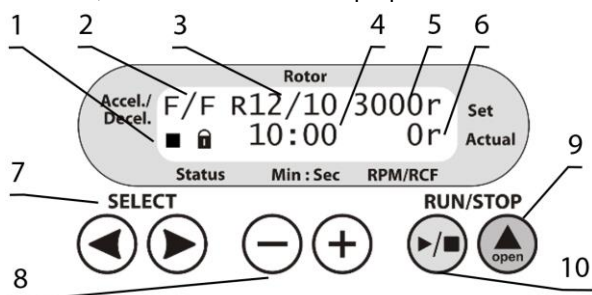

Figure 3. LMC-56 control panel.
- Check the power cable for any signs of damage. Connect the power cable to a properly grounded mains socket. Set the power switch on the unit to position **I** (on). Press the **▲ Open** key (fig. 3/9) and lift the lid by hand.
- Acceleration and deceleration modes (fig. 3/2);
- Set rotor speed in RPM or RCF¹ (fig. 3/6);
- Status icons of rotor, ■ stopped or ► running (fig. 3/1, first symbol);
- Status icons of lid, ■ closed or ► open (fig. 3/1, second symbol);
- Set time of centrifugation, in minutes and seconds (fig. 3/4);
- Actual rotor speed, in RPM or RCF (fig. 3/6).
- 5.4 Press the **▲ Open** key (fig. 3/9) and lift the lid by hand. Check the rotor, buckets for any signs of wear or corrosion, and replace if necessary. Insert EVEN number of tubes/microtest plates in rotor one opposite another. The loading in the opposite tubes must be equal.
- 5.5 **Setting parameters.** Use the **SELECT ◀** and **▶** keys (fig. 3/7) to choose a parameter and the **-** and **+** keys (fig. 3/8) to modify it. Selected parameter will be blinking. Program automatically saves any changes made after no keys are pressed for 2 seconds.
- 5.5.1 Acceleration modes (fig. 3/2, first letter). Three modes of acceleration are available, slow (shortened to **S**), normal (**N**) and fast (**F**).
- 5.5.2 Deceleration modes (fig. 3/2, second letter). Four modes of deceleration are available, free brake (**0**), slow (**S**), normal (**N**) and fast (**F**).
- 5.5.3 Installed rotor (fig. 3/3). Combinations of rotors, adapters and their maximum allowed speed is listed below in the table below:
- 5.5.4 Rotation parameters (fig. 3/5). Rotor speed can be set in RPM and in RCF, denoted after numeric value by **r** and **g**, accordingly. Values convert after changing units. RCF depends on the installed rotor, as shown in Table 1.
- 5.5.5 Time setting (fig. 3/4). Select duration of centrifugation in minutes, step 1 minute.
5.6 Close the lid carefully and smoothly until a clicking sound is heard. Icon  appears on the display (fig. 3/1).
5.7 Press the **RUN/STOP** / key (fig. 3/10) to start centrifugation. Icon  (fig. 3/1) and actual speed (fig. 3/6) are shown in the lower line of the display. The timer (fig. 3/4) starts the countdown after set speed is achieved.